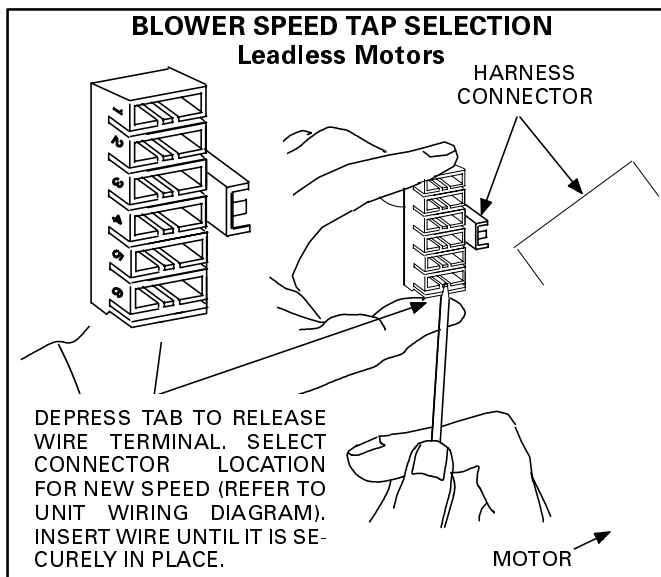

FIGURE 19
- 5 - Depress harness connector tab to release wire terminal. Select connector location for new speed (refer to unit wiring diagram). Insert wire terminal until it is securely in place. See figure 19.